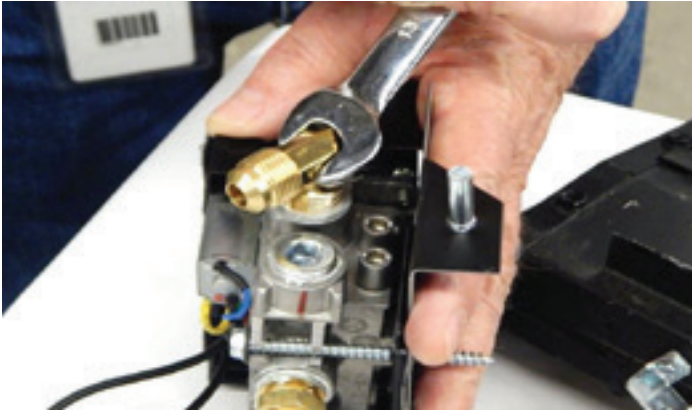

Figure 35
31. Apply pipe dope to the threads of the saved input fitting and install with 1/2" wrench. Tightened fitting should point away from the burner. **See Figure 35.**